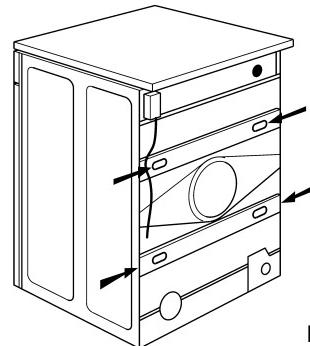

Fig.2
1. Slacken the bolts with the spanner supplied (Fig. 2).